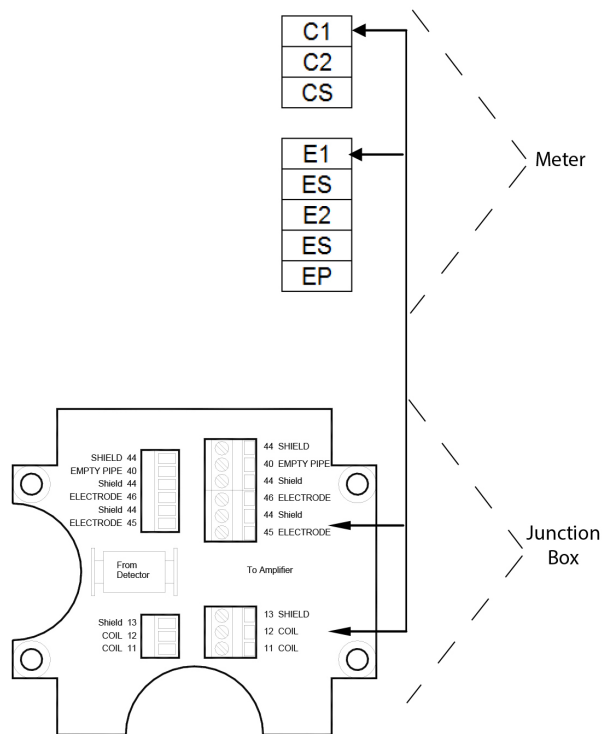

Figure 26: Remote version connection
3. Connect as shown in Figure 26.